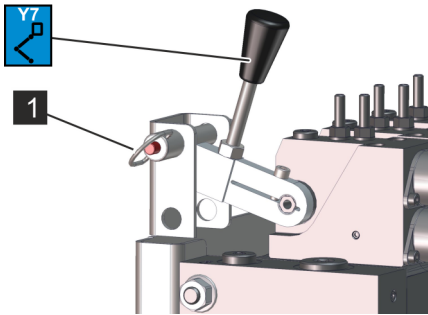

Fig. 170: Locking pin
- 11.** After emergency operation, remove the locking pin (Fig. 170/1) and move the valve (Fig. 170/Y7) into the centre position.